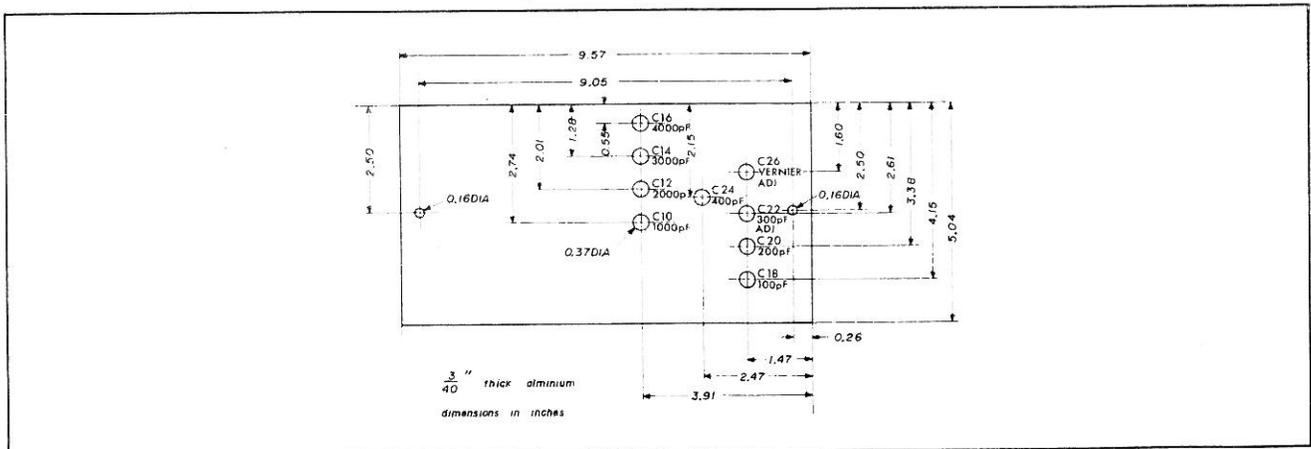

Figure 4-2 Testing Plate
| Testing Plate | | Calibration | Shown in Figure 4-2 |
4-11. When the adjustment of the variable capacitor is necessary, the testing plate (Figure 4-2) should be installed according to the following steps, and an adjusting screw driver with long insulator rod should be used. The Capacitance Bridge reading while adjustment is being made should be equal to the reading after the adjustment is completed.
- c. Install the testing plate (Figure 4-2) in place of the inside cover. Fasten it with the two screws taken out in step b.